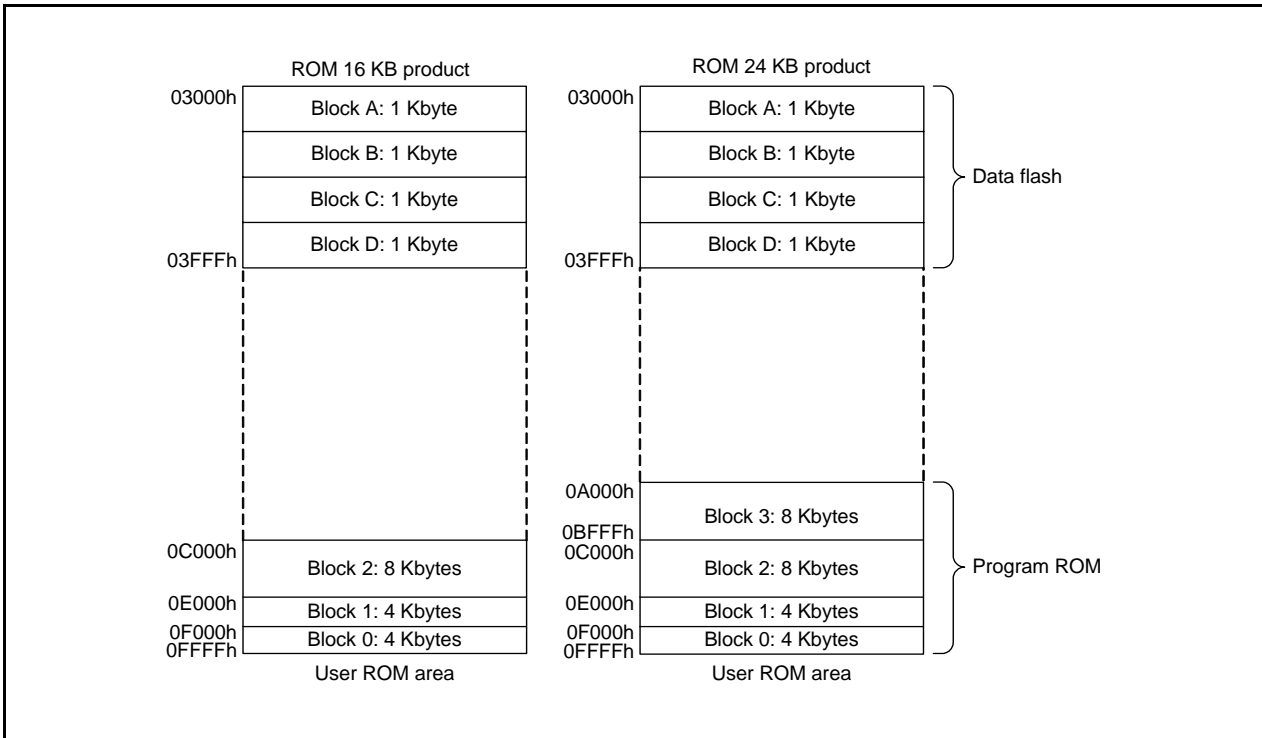

Figure 34.1 R8C/36A Group Flash Memory Block Diagram (1)
- The number of blocks and block division vary with the MCU. Refer to **Figures 34.1 and 34.2 R8C/36A Group Flash Memory Block Diagram** for details.
Figures 34.1 and 34.2 show the R8C/36A Group Flash Memory Block Diagrams.